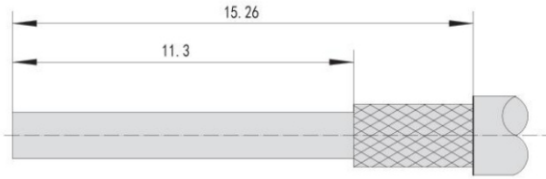

Figure 1.8
- ① Strip the cable as shown in Figure 1.8. The end face must be cut clean and perpendicular to the axial plane of the cable. The cable must not be deformed during cutting. Thermal stripping is recommended.